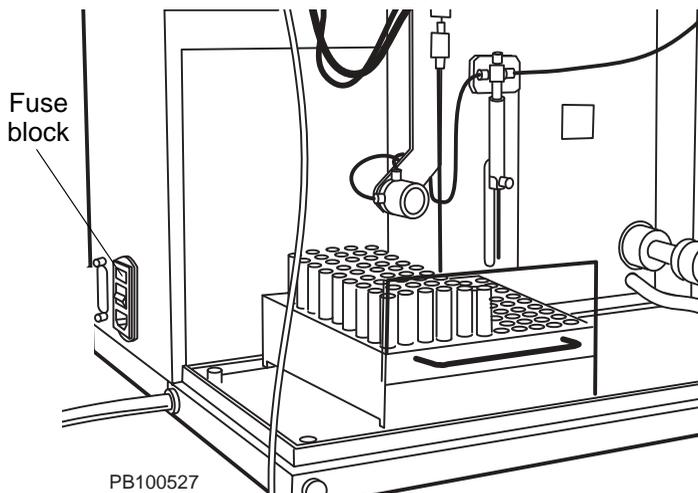

Figure 5-1 Replacing the Fuses
5. Pry out the fuse block using a small flat-blade screwdriver (Figure 5-1).